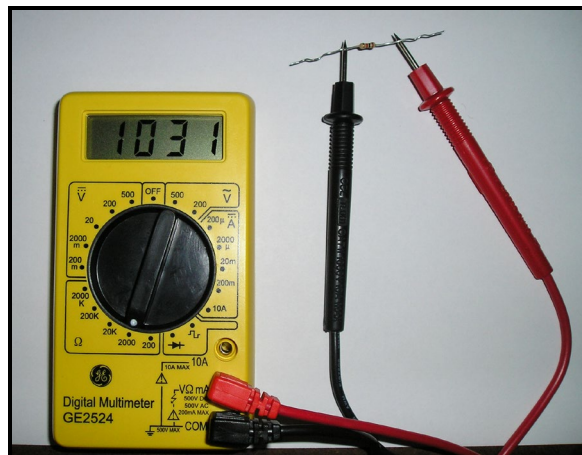

Figure 1. Measuring Resistance.
1. Use a multimeter on the ohmmeter (Ω) setting to measure the value of resistance for each of the resistors. Look at Figure 1 for help.